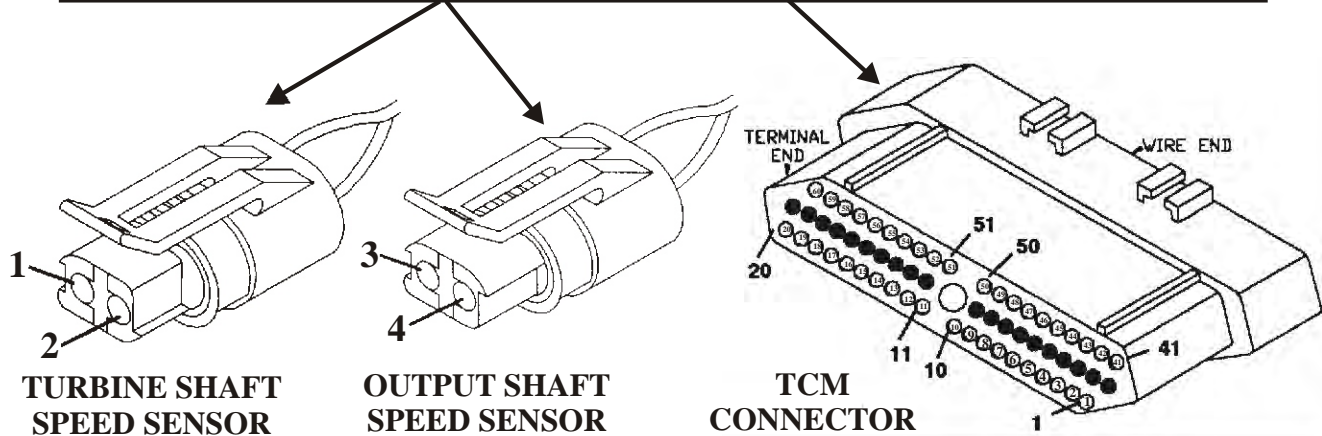

Figure 61
- If an open is observed, use Figure 61 to perform individual continuity checks on each wire. Repair the open wire if necessary. If continuity is seen on each wire, check connector cavities. RPM Sensor Connector repair kit part number is 4419478. See page 25 for the TCM connector check. If connectors are good,